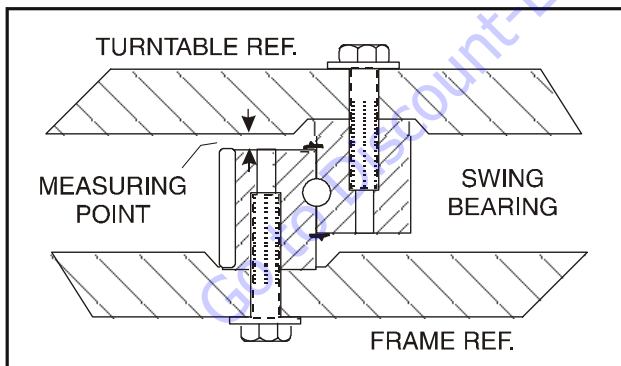

Figure 3-20. Swing Bearing Tolerance Measuring Point
1. From the underside of the machine, at rear center, with the main boom fully elevated and fully retracted, using a magnetic base dial indicator, measure and record the distance between the swing bearing and turntable. See Figure 3-20., Swing Bearing Tolerance Measuring Point.
2. At the same point, with the main boom at horizontal and fully extended, using a magnetic base dial indicator, measure and record the distance between the swing bearing and turntable. See Figure 3-20., Swing Bearing Tolerance Measuring Point.